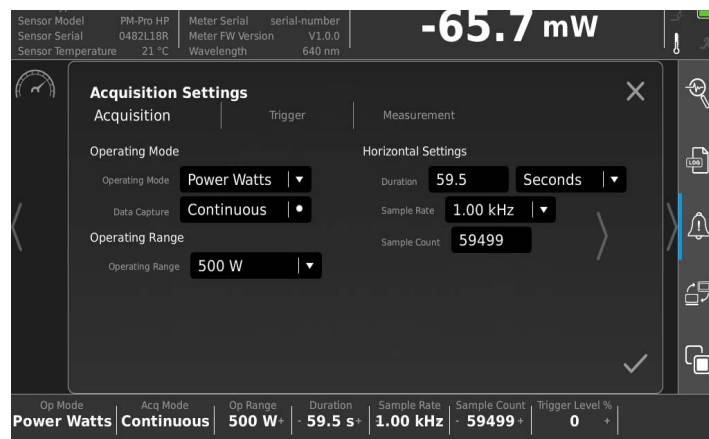

Figure 6-2. Acquisition Settings
5. Make sure that the **Acquisition** sub-tab is selected. Refer to Figure 6-2.